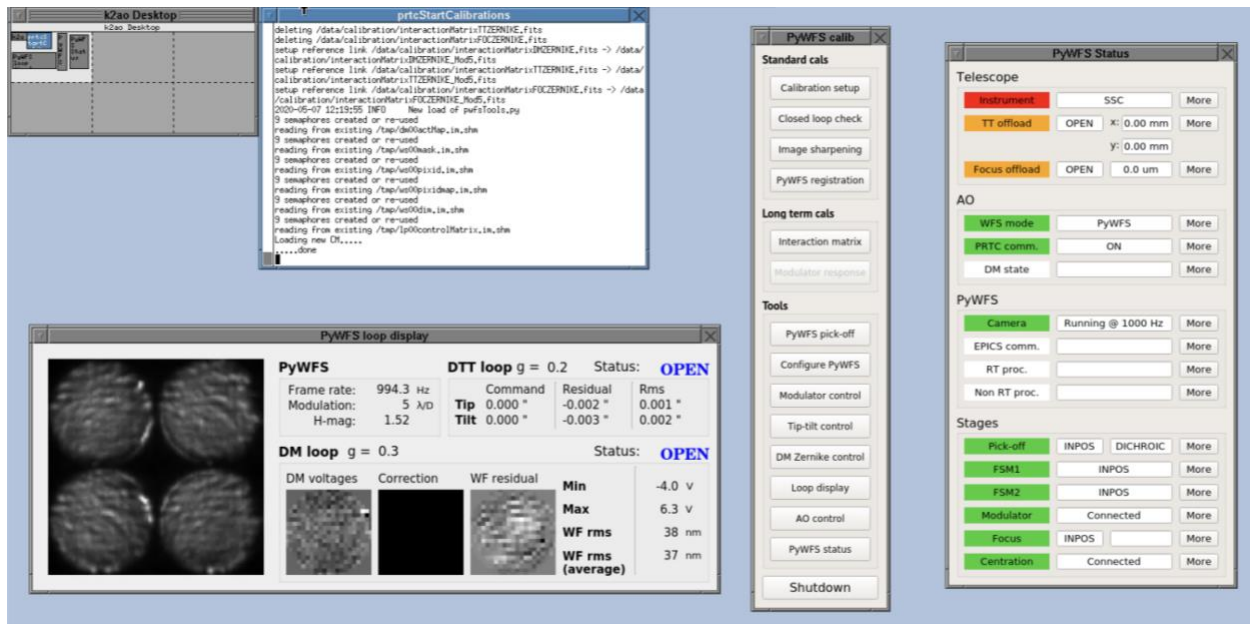

Figure 10: GUIs and terminal for running PyWFS calibrations.
- b. Confirm the following windows are open (**FIGURE 10**):